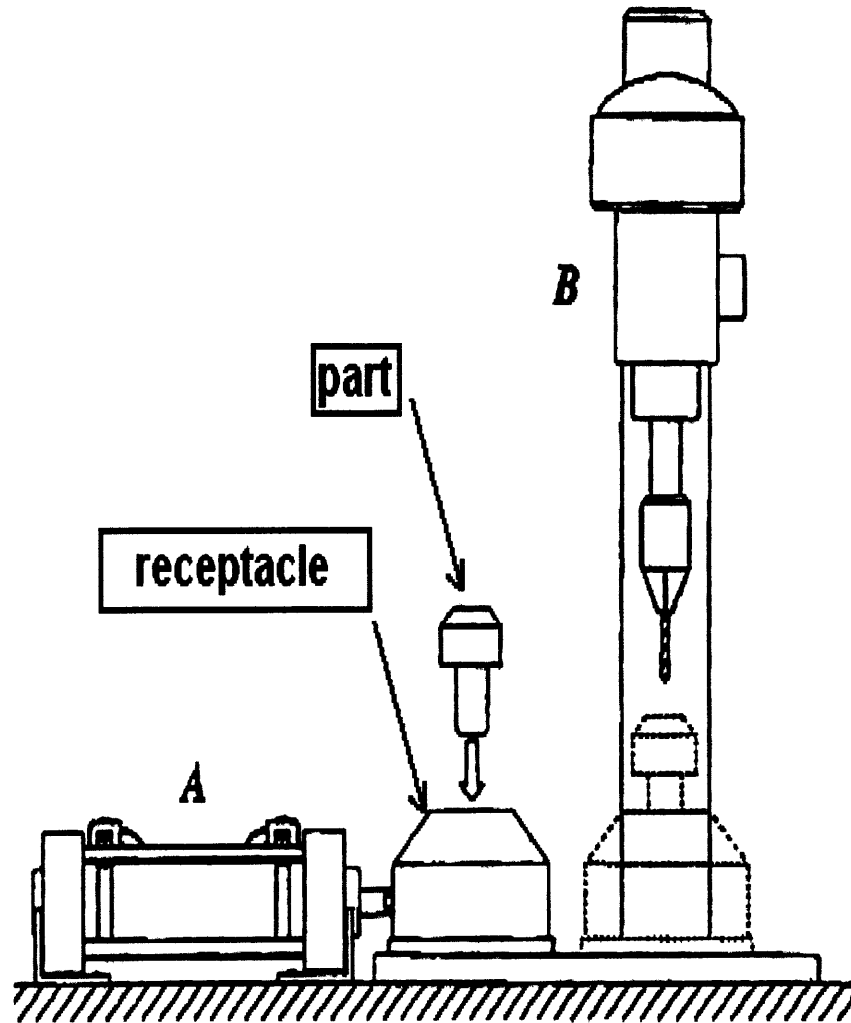

Figure Q4(a)
- Q4.** Figure Q4(a) shows the drilling process of an object. Initially, parts are manually placed in a receptacle. When PB is pressed, cylinder A pushes a receptacle under the drilling unit. Then, cylinder B will start to extend. Drilling operation starts once cylinder B at it full extension. Drilling operation operate for 5 seconds. After drilling cylinder A must not return until drill feed unit has reached its start position.
Based on Figure Q4(a):